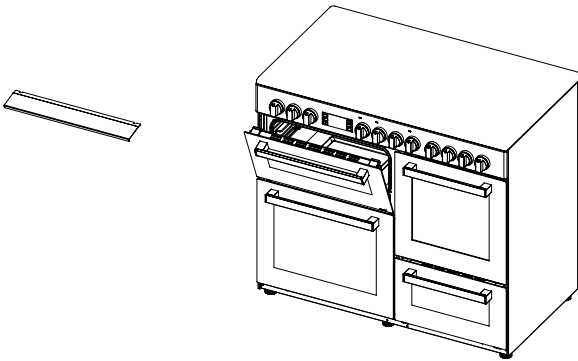

Figure 32
1. A safety panel is designed to protect control panel and the buttons when the oven is in grill mode. (figure 32)